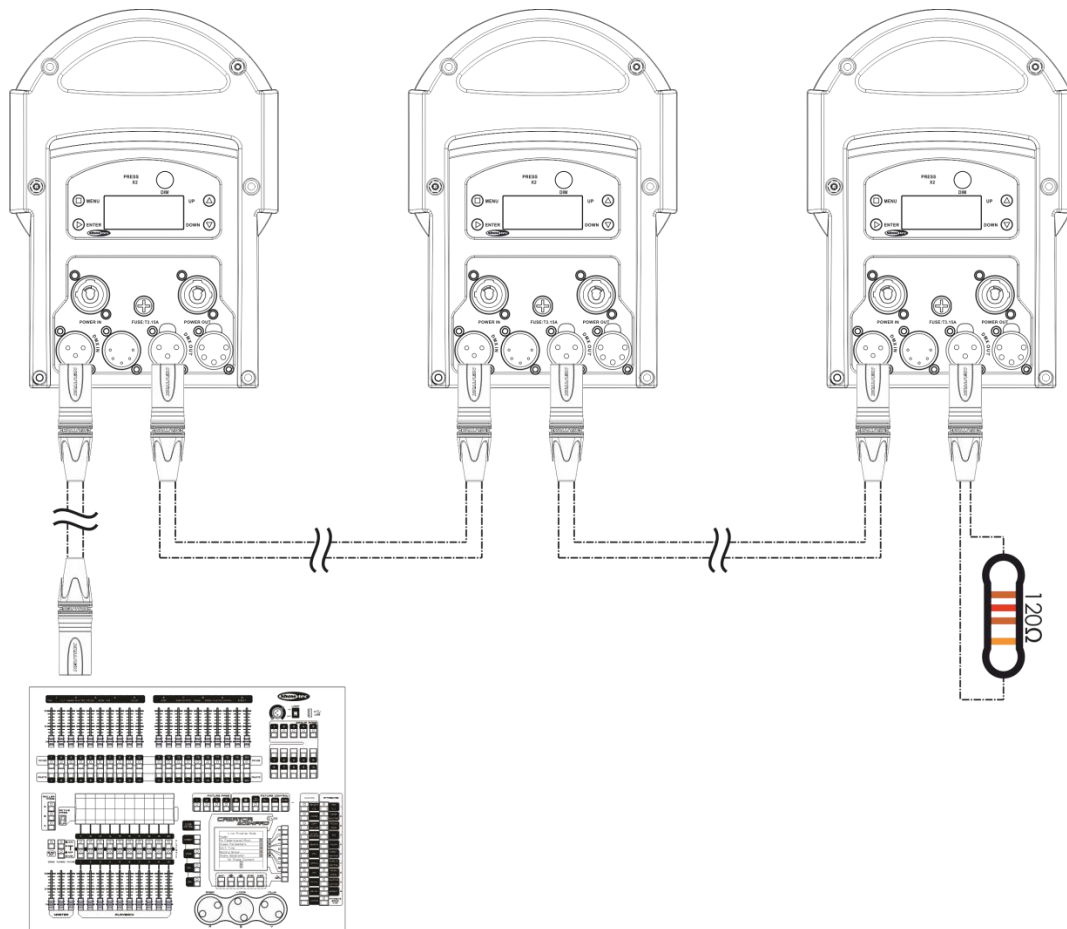

Fig. 06
- 04) Link the units as shown in fig. 06. Connect the first unit's DMX "out" socket with the second unit's "in" socket, using a DMX-signal cable. Repeat this process to link the second, third, and fourth units.